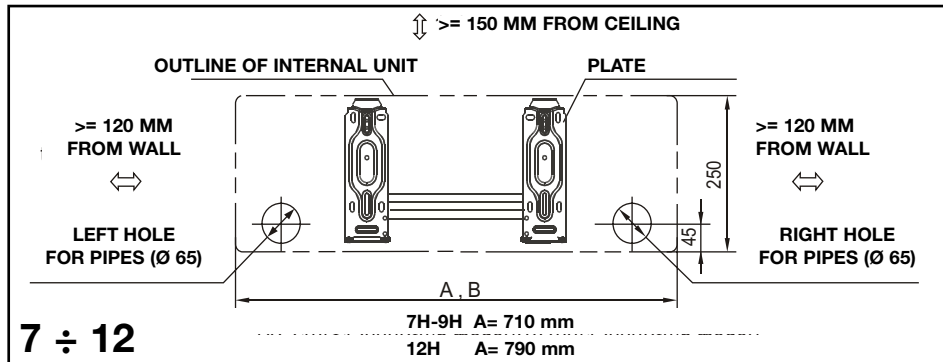
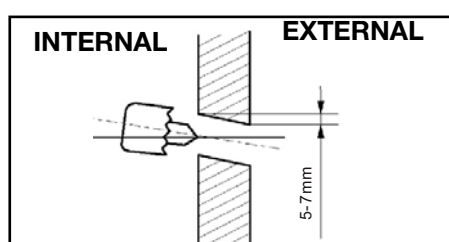

fig.1b
fig.2
4. Drill the wall to allow passage of the pipes and electrical connections (diam. 65 mm, 95 mm mod.24) (fig.1b,1c,1d). The hole housing the drainage pipe must be inclined towards the exterior, with the outlet section at a height 5-10 mm lower than the inlet section, so as to encourage drainage of condensation (fig. 2).